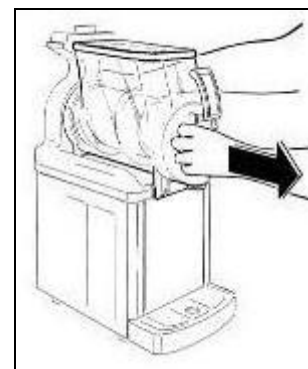

Fig. 16
- Pull the bowl outward, as shown, to completely remove it from its seat (fig.16).